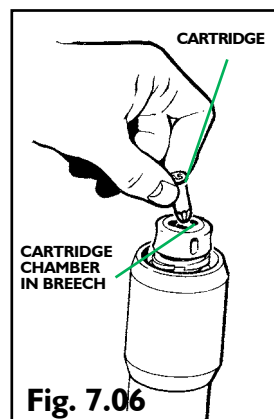

Fig. 7.06
- 2.3 Obtain a single cartridge, and load the cartridge into the cartridge chamber crimped end first. (See Fig 7.06)